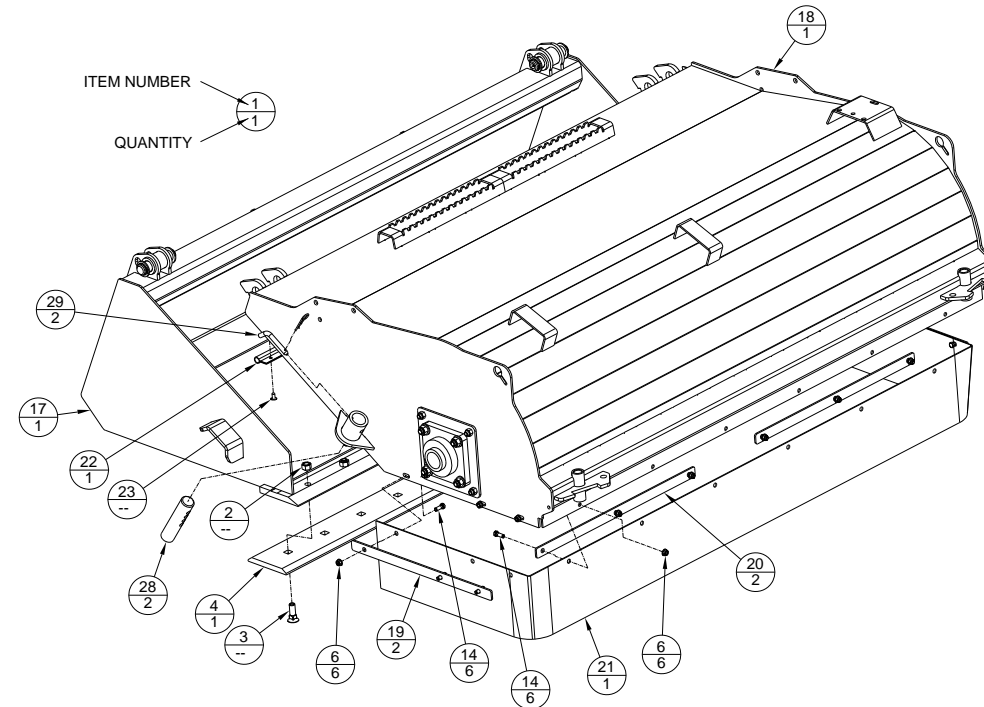

Figure 1.
- If the pattern is less than 2-4", the broom head needs to be lowered. To do this, prop up the front of the broom to take the weight off of the adjustment shafts (Item #28, see Figure 1). Remove the bent leg pin (Item #29) and move the adjustment shaft to the next lower hole location. Reinstall the bent leg pin. Repeat procedure on other side of the Pick-Up Broom.